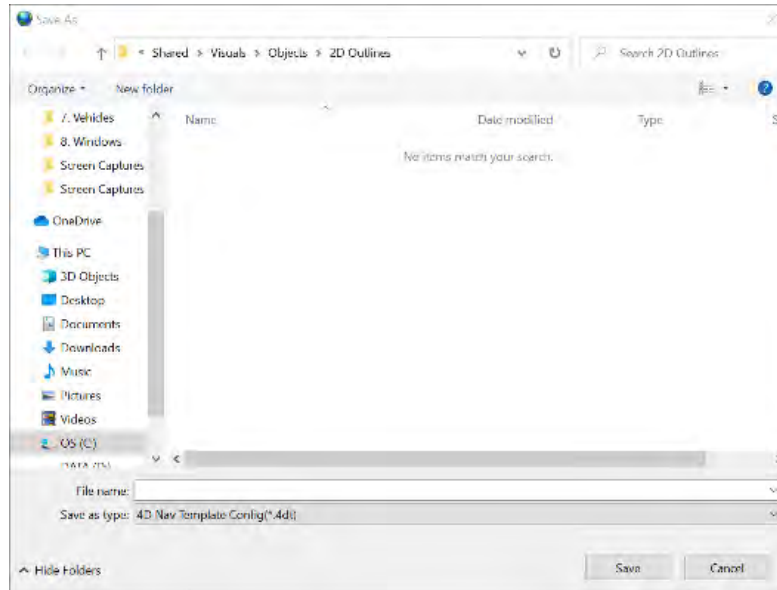

FIGURE 8-16 TEXT TEMPLATE EXPORT DEFAULT FOLDER
7. Navigate to the destination folder. See Figure 8-16 for default folder
11. Navigate to and select the NavView: template file (*.4dt). See Figure 8-16 for default folder